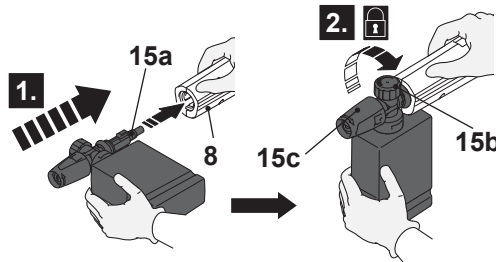

Fig. 10
- > Align and insert the tongues (15a) of the soap tank (15) with the grooves of the connection port of the spray gun (8) . (Fig. 10, step 1).
- > Securely fit the soap tank by turning it clockwise to lock it in place (Fig. 10, step 2).